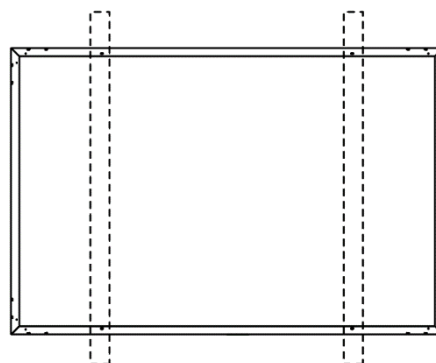
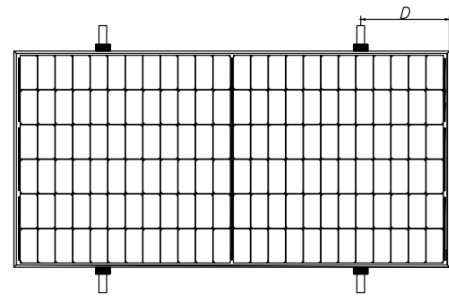
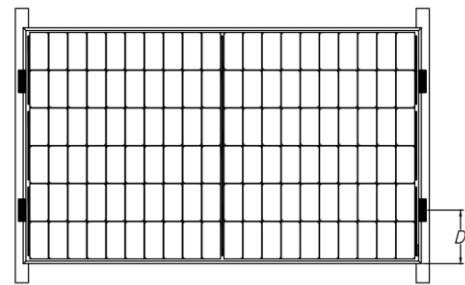
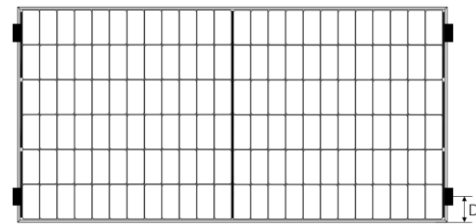

Fig. 2 Bolt installation for 54cell
Fig. 11 Rails vertical to the long-side frame
Fig. 12 Rails overlapping the short-side frame
Fig. 13 Four clamp mounting on short side of frame
All modules must be securely fastened with at least 4 bolts (As shown in Fig. 2, Fig. 3, Fig. 4 , Fig. 5 , Fig. 6, Fig.7 , Fig. 8 , Fig. 9 ). The corresponding mechanical loads are shown in Table 2.
Photovoltaic modules can be installed across the support frame (Fig. 11) or parallel to the frame of the photovoltaic module (Fig. 12). PV modules can also be installed with four fulcrums (Fig 13). When using clamps to install, each module must be secured with a minimum of 4 clamps.
- ⑧ For the mounting shown in Figure 12, the overlap between the C surface of the assembly and the rail should be  $\geq 25\text{mm}$ . Astronergy's limited warranty will be void if improper clamps or improper installation is used.
|                                                                                                                     |                              | Fig 2 & Fig3 & Fig 4 &Fig 5 | Fig 6              | Fig 11                                              | Fig 12                                              | Fig 13                                            | Fig 7 &Fig 8 &Fig 9   |
|                                                                                                                     |                          | Fig 2 & Fig3 & Fig 4 &Fig 5 | Fig 6              | Fig 11                                              | Fig 12 | Fig 13 | Fig 7 & Fig 8 &Fig 9      |